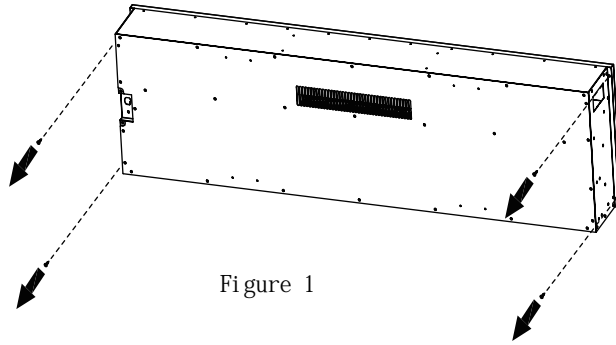

Figure 1
(1) First, remove the 4x M4x8mm Screws from the back (Figure 1).